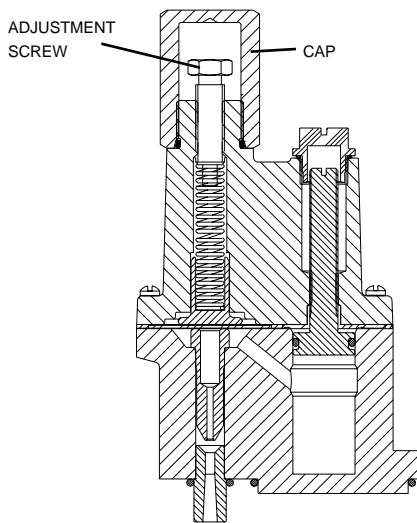

FIGURE 4
- 1: Remove the cap (Fig. 4).
- 2: Turn down the adjustment screw (Fig. 4). Tightening the screw clockwise will increase the pressure. When the adjustment screw is fully down, the relief pressure is approximately 40 psi (276 kPa) to 45 psi (310 kPa). Fully up will result in relief pressures between 0 psi (0 kPa) and 3 psi (20 kPa).